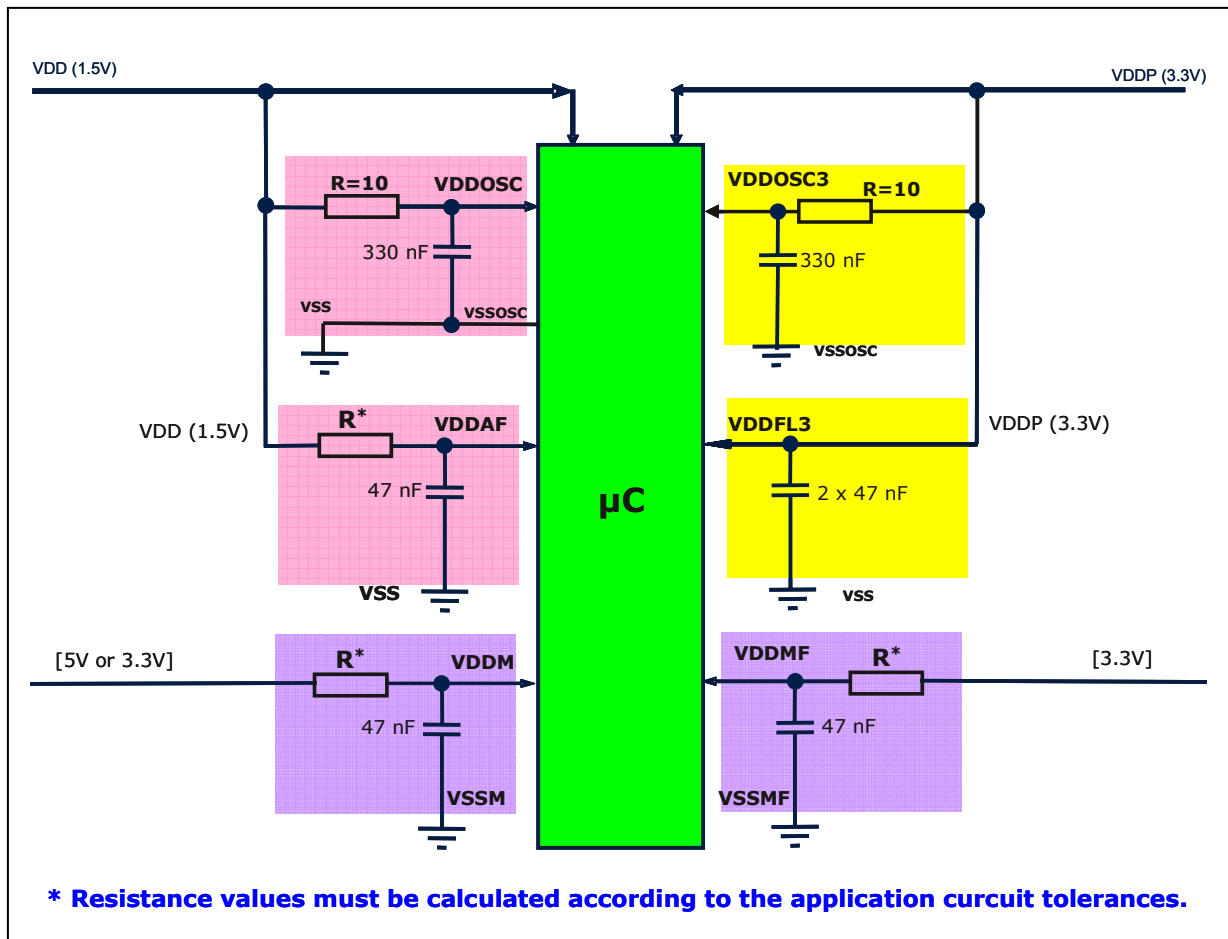

Figure 2 Filtering of VDDOSC, VDDOSC3, VDDFL3, VDDDM, VDDMF, VDDAF supply pins
- RC Filters can be inserted in the supply paths at the regulator output and at the branchings to other module supply pins like VDDOSC, VDDOSC3, VDDFL3, VDDMF, and VDDAF. Using inductance or ferrite beads (5 – 10 μ H) instead of the resistors can improve the EME behaviour of the circuit and reduce the radiation up to ~10dB μ V on the related supply net. (See Figure 2).